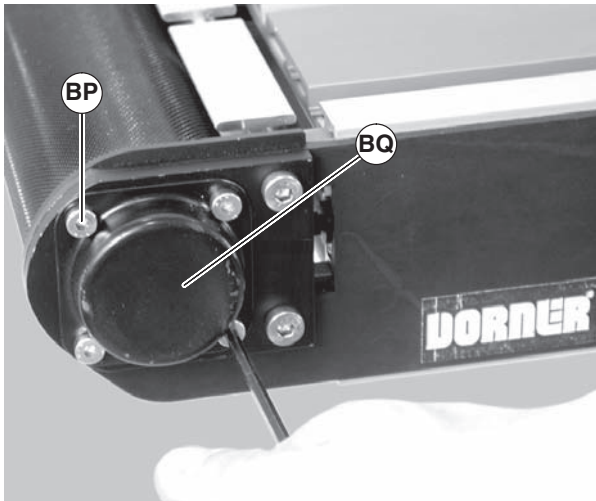

Figure 49
4. Remove four shaft cover screws (Figure 49, item BP). Remove the shaft cover (BQ).